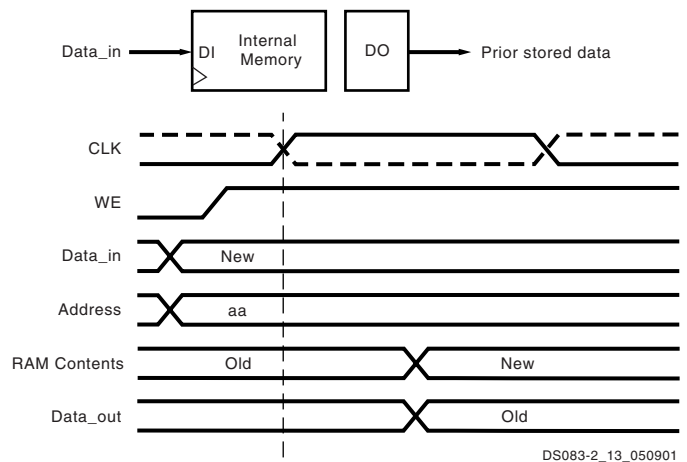

Figure 40: READ_FIRST Mode
The same clock edge that writes data input (DI) into the memory also transfers the prior content of the memory cell addressed into the data output registers DO, as shown in **Figure 40**.